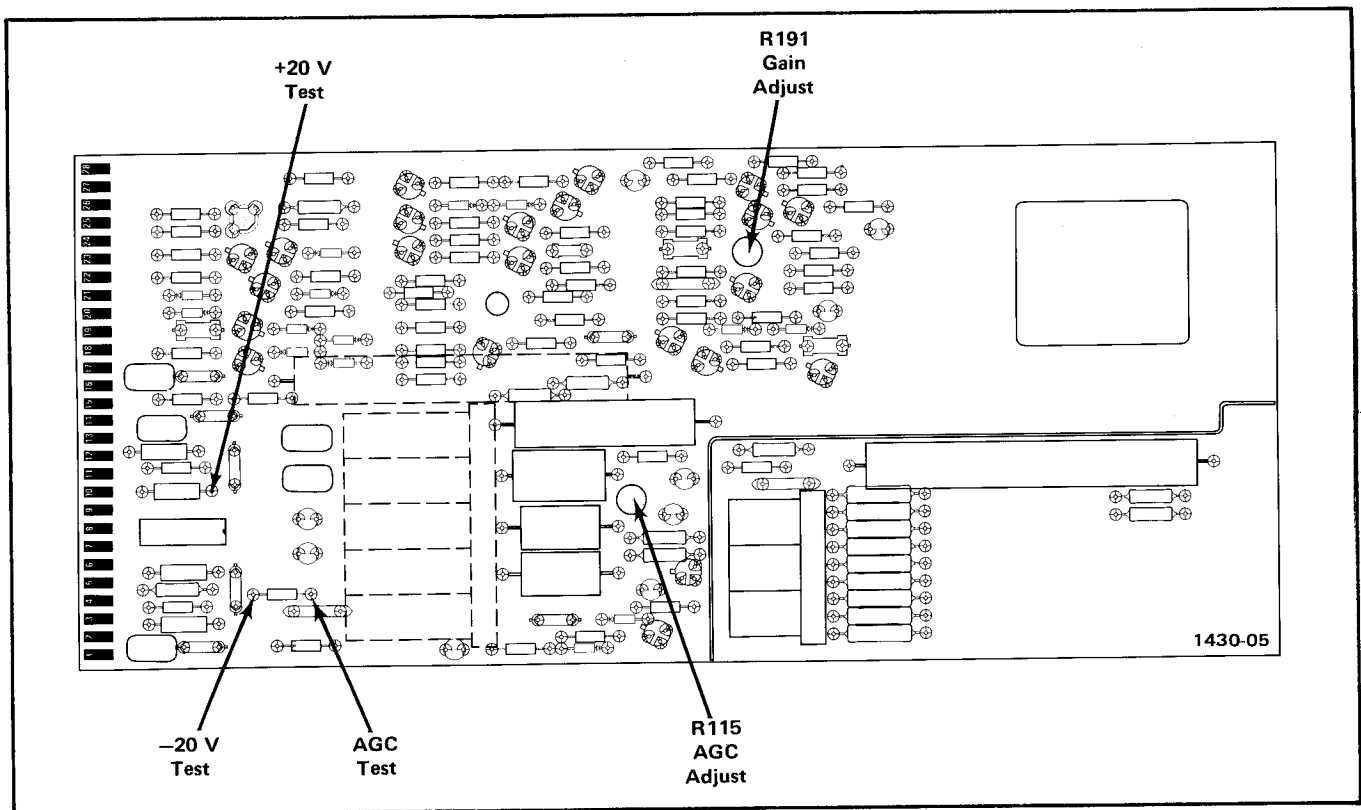

Fig. 3-1. Location of test points, AGC and Gain adjustments.
- Connect the digital voltmeter between +20 V test point on the circuit board, and chassis ground. See Fig. 3-1 for voltage test point location.
- Connect the digital voltmeter between the AGC test point on the circuit board, and chassis ground. See Fig. 3-1 for test point location.
- ADJUST—AGC Adjust, R115, for a meter reading of -2.5 volts. See Fig. 3-1 for adjustment location.
- ADJUST—Gain Adjust, R191, for a meter reading of 5 volts, rms. See Fig. 3-1 for adjustment location.